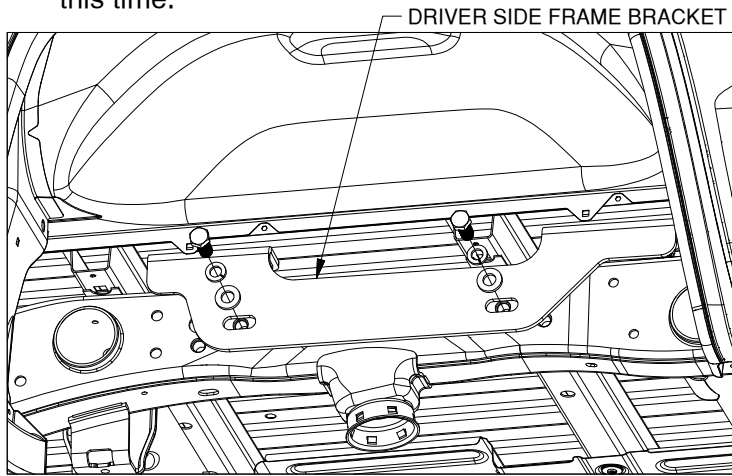

Figure B1: View from outside of driver side frame.
3. **Install the frame brackets.** Once the 9/16" holes are drilled Replace the frame brackets on each side of the truck and attach using two 16mm cap screws, a 5/8" lock washer and a 5/8" flat washer as shown in figure B1. To not tighten the mounting hardware at this time.